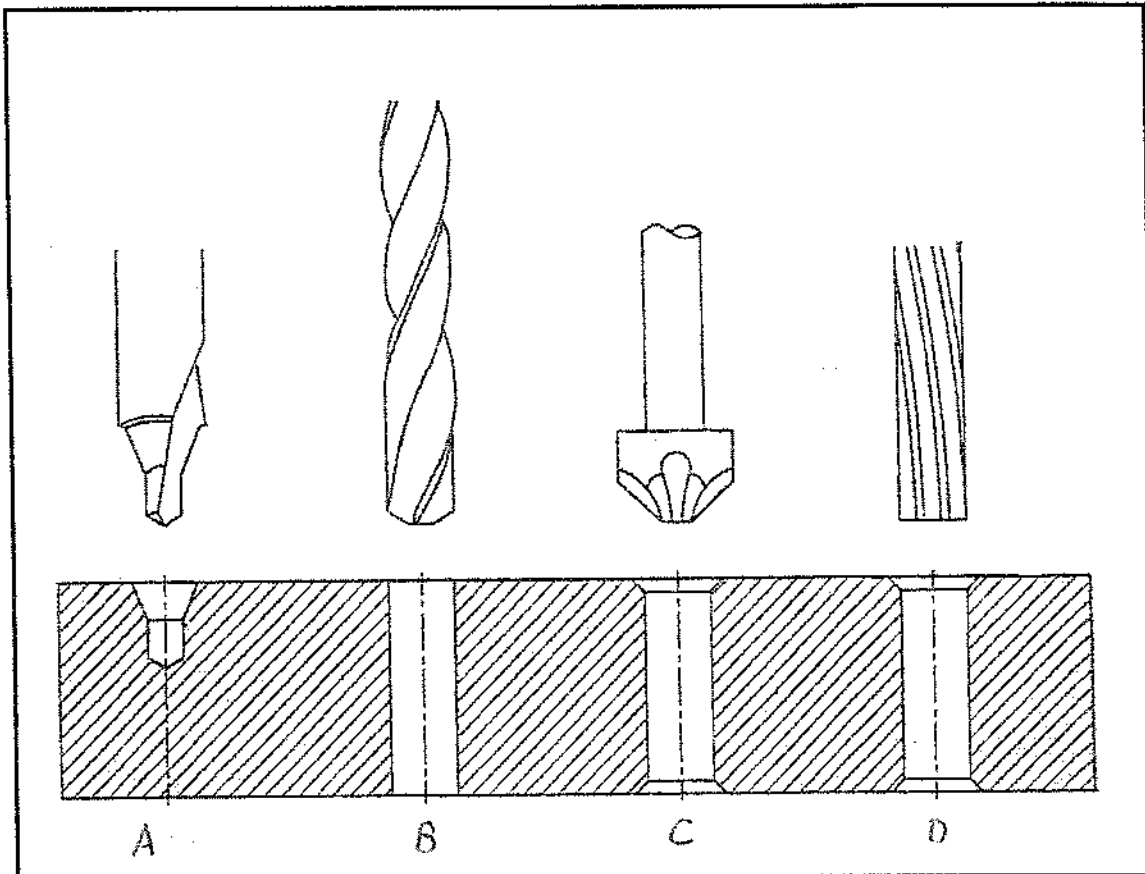

FIGURE 1
- 11.5 When working in a machine shop you will use various types of drilling processes. Identify the types of cutting tools shown in FIGURE 1. Write only the word(s) next to the letter (A–D) in the ANSWER BOOK.